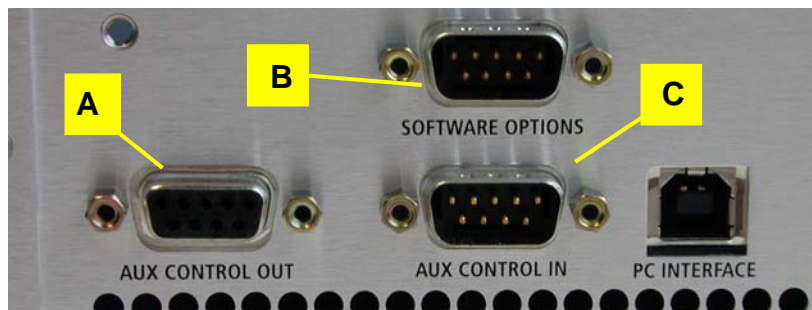

Figure 4 APx rear panel
17. On the rear panel, remove the six threaded studs that secure the connectors A, B, and C in figure 4.